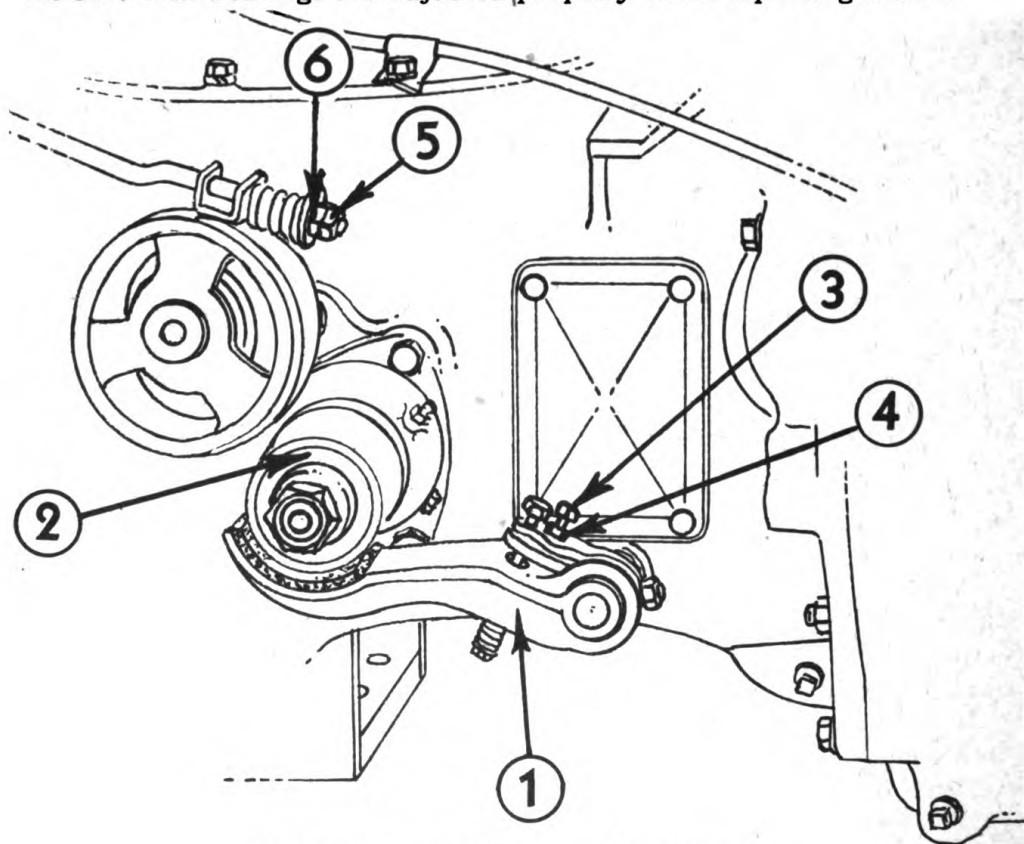

Fig. 39. Clutch Brake and Hand Brake
Following clutch adjustment, inspect clutch brake shoe 1, Fig. 39 to insure that it contacts the clutch brake sleeve (2) when the clutch is disengaged. Adjustment of the clutch brake shoe (1) is very simple. When clutch is engaged be sure that brake shoe does not make contact with clutch brake sleeve (2). This adjustment can be made by adjusting screw (3). Turning adjusting screw (3) to the right increases the clearance. When clutch is engaged this clearance should be $\frac{1}{8}$ inch. Lock adjustment securely by tightening nut (4).
1. Loosen lock nut 5, Fig. 39.
2. With brake lever in released position, set adjusting nut (6) so that the lining does not cause any drag on the drum.
- Tighten lock nut (5) after adjustment is made.